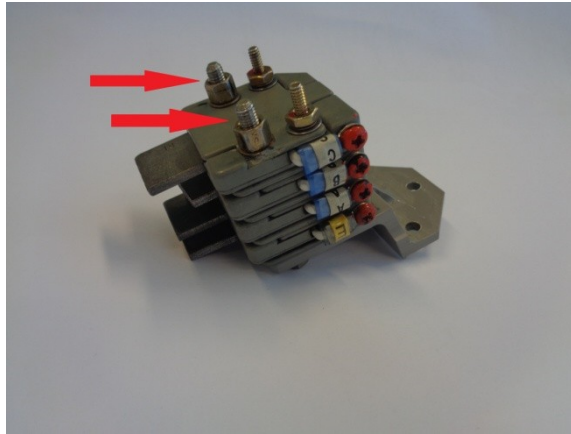

Fig.7 Loose screws and nuts marked with red arrows for disassembly Brush block assembly
B. Remove the two M5 screws from self locking nuts (see red arrows in the Fig.7), remove brush assembly from bracket (Note: Do not loose low profile nuts with thin screws (No.6-32 UNC = Approx  $\varnothing 3,5\text{mm}$ ) – It would release Brush blocks and move them relative to each other)